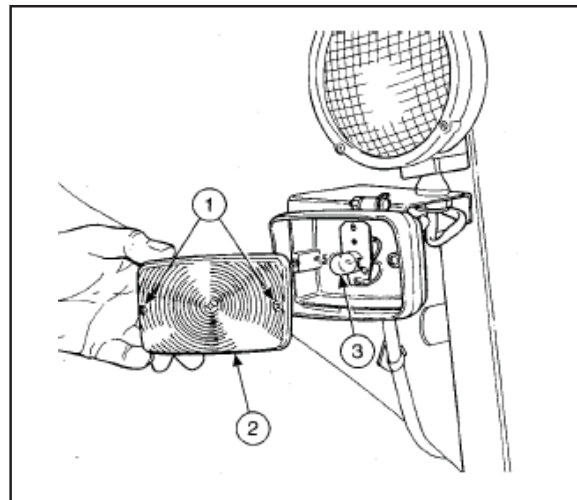

Fig.143
2. Loosen the screws (1, Fig. 143) and remove the lens (2).
3. Remove the failed bulb (3) from its fitting.